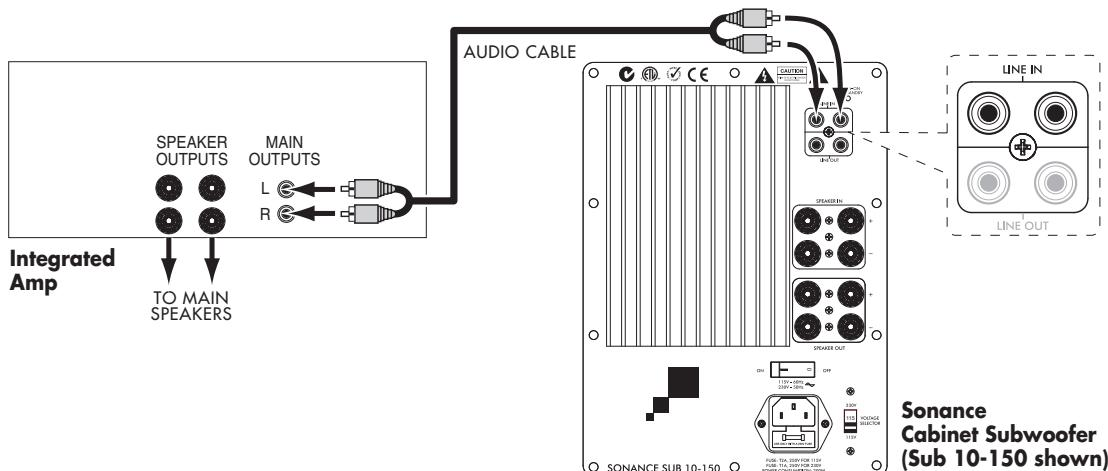

FIGURE 9: CONNECTING TO AN INTEGRATED AMP WITH LINE OUTPUTS
3. Integrated amplifier with left and right line-level outputs but no Main In or Amp In jacks (see *Figure 9*):